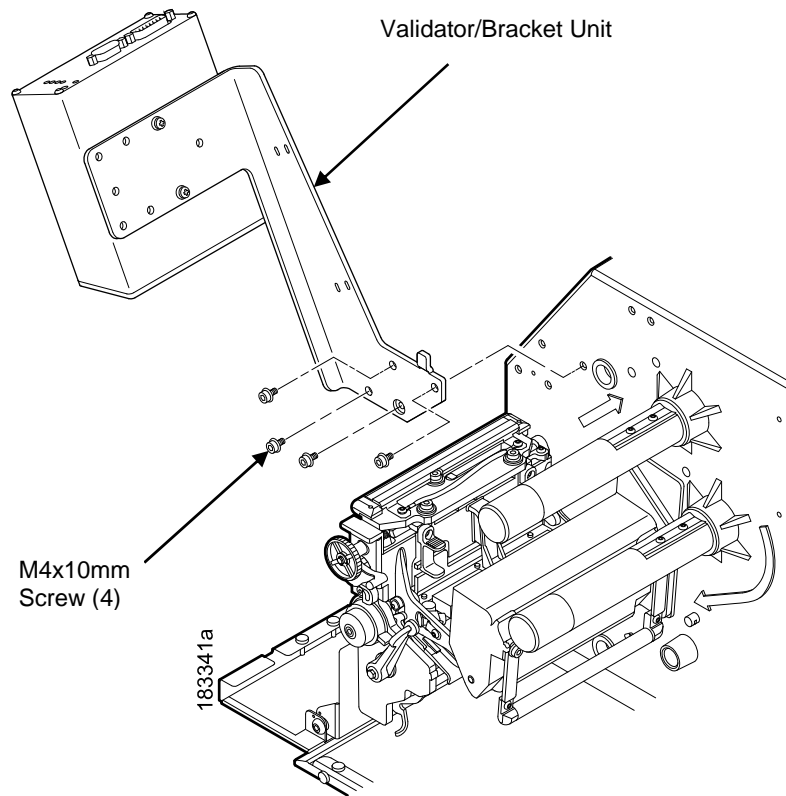

Figure 14 Attaching the Validator/Bracket Unit to the Printer
4. Using four M4x10mm screws, attach the validator/bracket unit to the printer frame as shown in Figure 14.